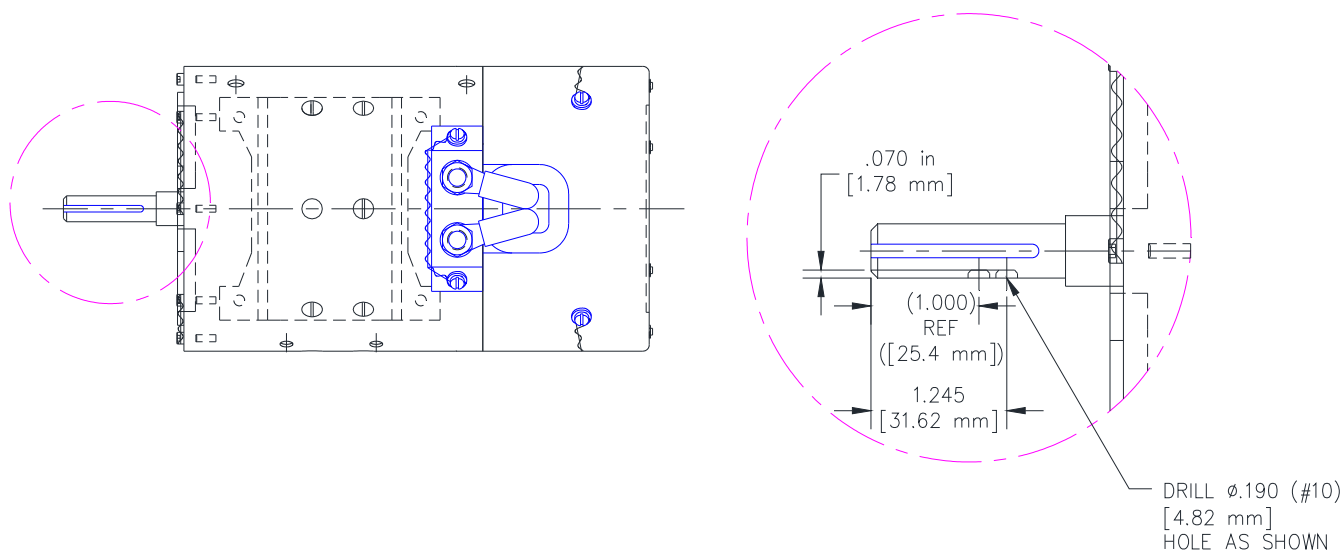

Figure 2.3.3 Motor Shaft Dimple
2. Dimple shaft using #10 drill bit (.190 in [4.82 mm]) at 1.245 in [31.62 mm] dim, as shown in Figure 2.3.3